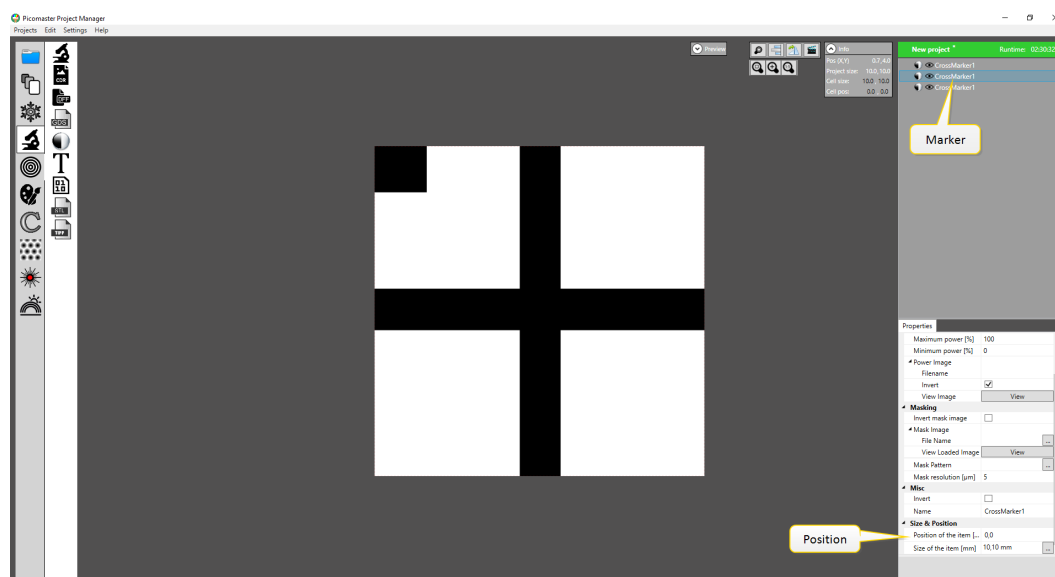

Figure 3-101 Set marker positions
- Do not place markers on top of project items. (In the example of **Figure 3-101 on the next page**, other project items are not present.)
12. Set the position of the markers, see "**Marker position guidelines**" on the previous page and see **Figure 3-101 below**.
Note: In **Figure 3-101** above, at the start, three identical markers are mounted on top of each other. Also, other project items may be present.